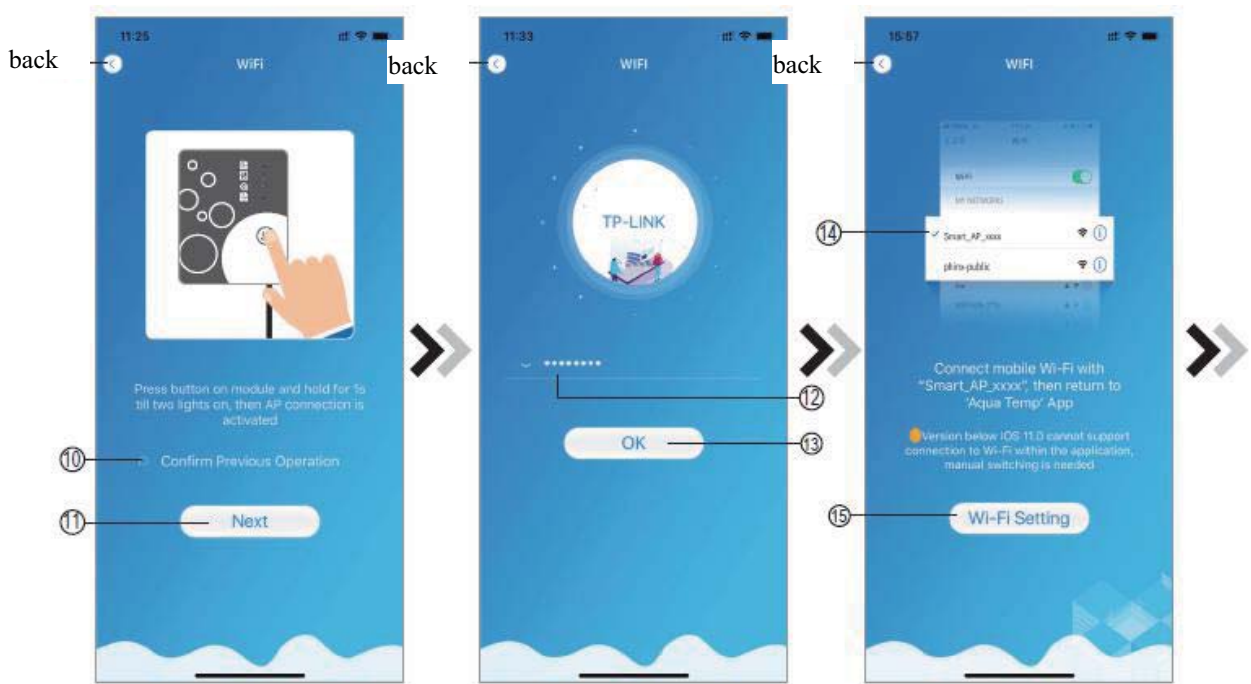

Fig.7 WIFI Module On interface Fig.8 Enter password interface Fig.9 Connect specified WIFI
1. Follow the instructions on the page (Fig.7), press button on module and hold for 1s till two lights on, then AP connection is activated, click (10) to confirm, click (11) to turn the page;
2. Click (12) to enter the WIFI password for the current connection, click (13) to confirm;